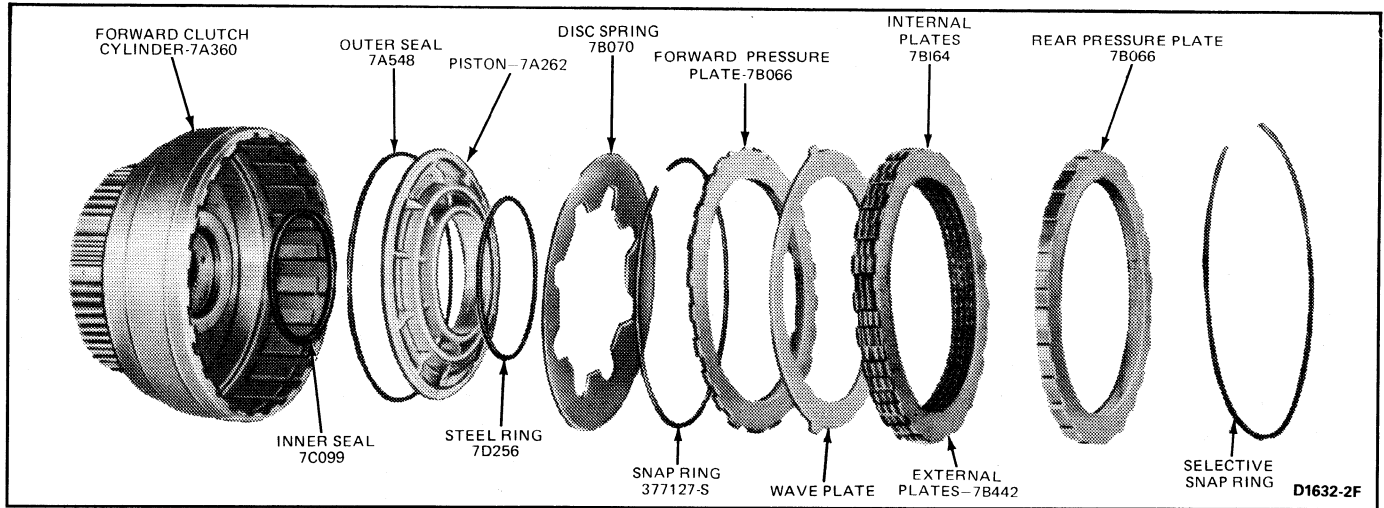

FIG. 49 Forward Clutch Disassembled
2. Remove the rear pressure plate, the drive and driven plates, wave plate, and the forward pressure plate from the clutch hub (Fig. 49).
5. Remove the seal from the piston and the seal from the clutch hub (Fig. 49).
5. Install the forward pressure plate with the flat side up and the beveled side downward. Dip the clutch plates in clean transmission fluid (Specification DEXRON® II Series D or equivalent). Next, install the wave plate, then a steel plate and a composition driven plate. Install the remaining plates in this sequence (Fig. 49).